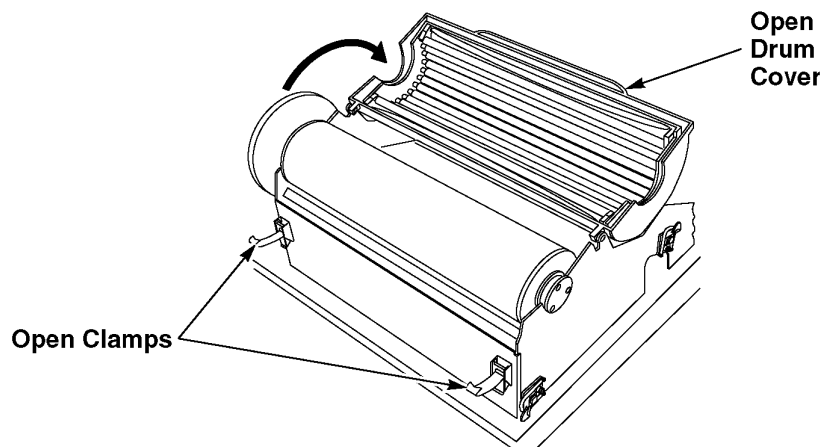

Figure 5-5. Opening the Drum Cover
2. Release the two clamps at the left of the processor and open the drum cover (see Figure 5-5).